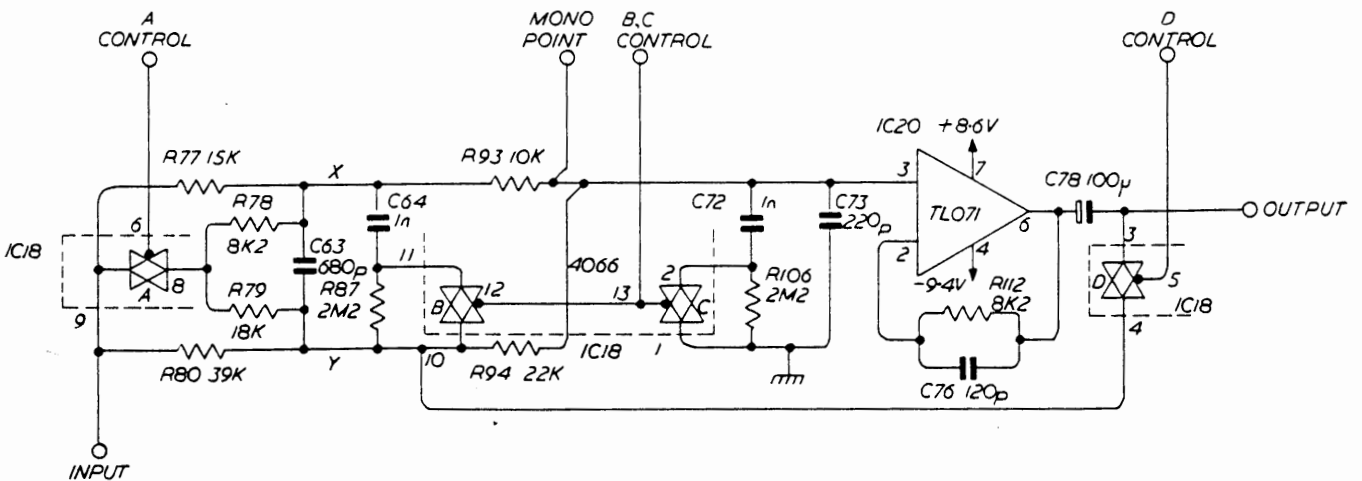
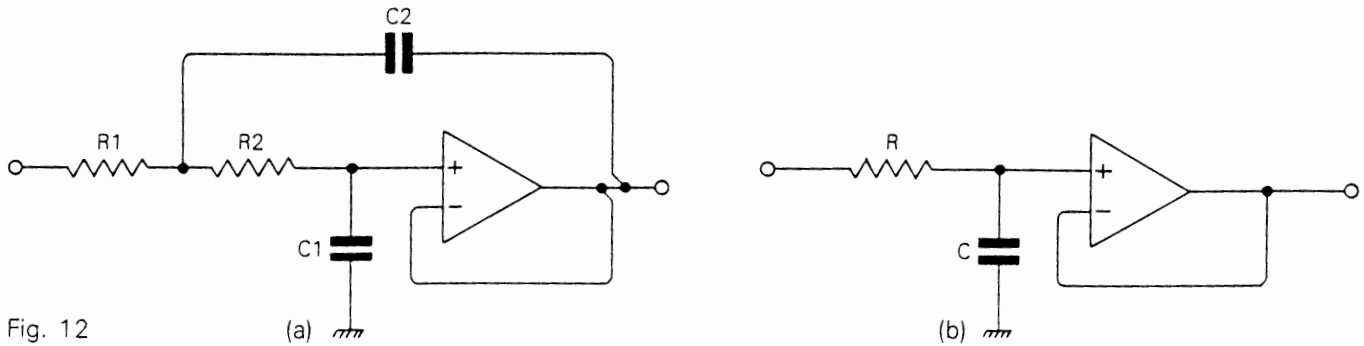

Fig. 11
Fig. 12
These variations are achieved using logic to control analogue switches within the filter circuit, (see fig 11). For 6dB octave filtering the circuit is connected as a buffered R-C filter (12b). For 12dB/octave filtering (Slope) the circuit is connected in a Sallen-Key configuration as shown in fig 12(a).
The values of R and C in either network are determined using the four analogue switches to connect (in the case of the right channel shown in fig 11) R77, R78, R79, R80, R93, R94, C63, C64, C72 and C73 in various configurations. (Similarly for the left hand channel).
With Filter 1 selected and no slope, the analogue switch 'D' (fig 11) is disabled and A B and C are enabled.
- (iii) Analogue switch C connects C72 in parallel with C73. The equivalent circuit is shown in fig 12(b) where:
The equivalent circuit is shown in fig 12(b) where:
- (ii) Analogue switch D switches in the feedback circuit. This makes the effects of R94, R79 and R80 negligible. The circuit becomes a Sallen-Key filter, the circuit for which is shown in fig 12(a) where:
- (ii) Analogue switch D makes connections as described in 3(ii). The circuit becomes a Sallen-Key filter as shown in fig 12(a) where:
The equivalent circuit is as shown in fig 12(a) where: